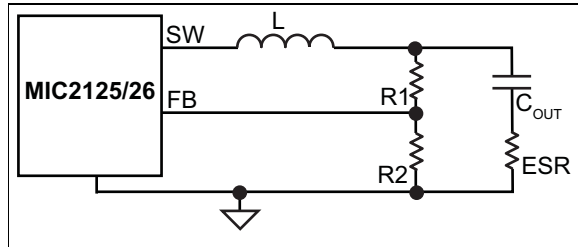

FIGURE 5-5: Enough Ripple at FB.
- Enough ripple at the feedback voltage due to the large ESR of the output capacitors (Figure 5-5). The converter is stable without any ripple injection.